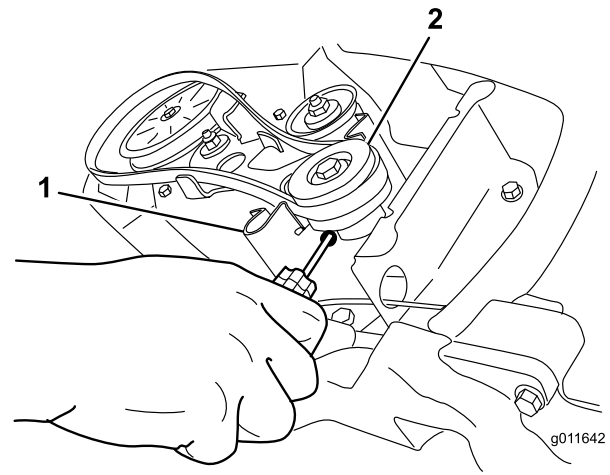

Figure 30
5. Insert a screwdriver into the hole in the belt guide as shown in Figure 30, and flex the belt guide toward the rotor pulley enough to pull the belt through the gap.